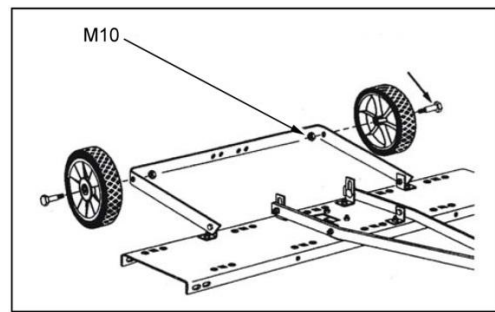

Figure 6
8. Fit the wheels on the wheel axles with two shoulder bolts and M10 lock nuts (fig. 6). Tighten fully.